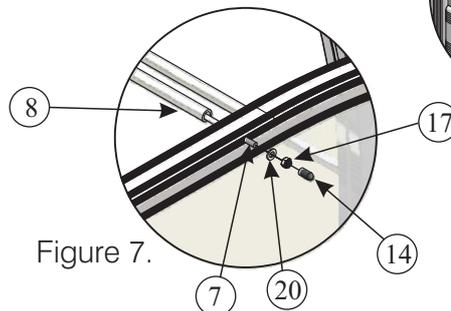

Figure 7.
4.) Attach the retaining bars (7) from one end by sliding through the holes located in the sideframe and the bent supports (3). This will require 2 people as one will need to push the bars through while the other will need to slide the bars through the retaining tubes (8) to space the sections at the correct length (Figure 7). Once the retaining bar is all the way through there should be approx 15mm protruding either side. This allows the bar to be fixed and tightened at each end. This is done by placing a skiffy washer (20) on first and then fixing with BOL400 (17). Hand tighten this at first as you will need to allow movement between the sections when fitting the plastic later.
Note: CAP951 (14) needs to be fitted once the retaining bars have been tightened and the shelter is complete (Figure 7).